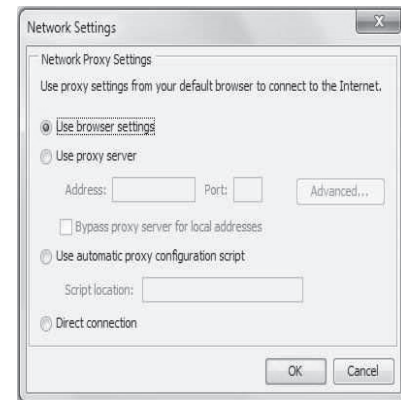

Fig. 81 — Network Settings
- Network settings: In the Java Control Panel, click Network Settings. Select a direct connection to bypass the proxy server or select the automatic configuration script. See Fig. 81.